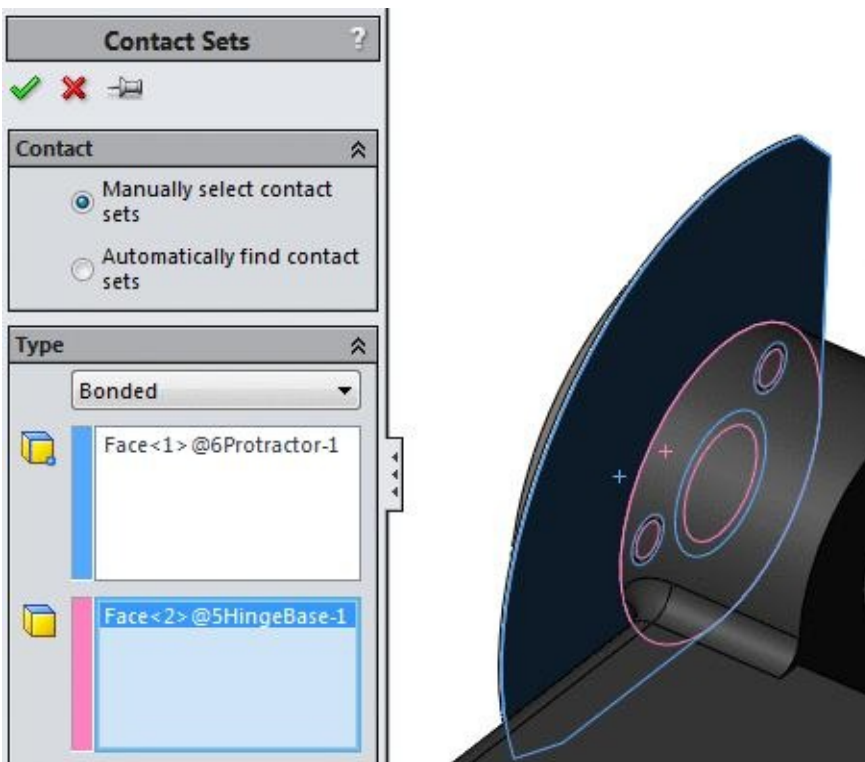

Figure-64. Preview of bonded connection
- Click in the pink box and select the face/plane of the second component. Preview of the bonded connection will be displayed; refer to Figure-64.